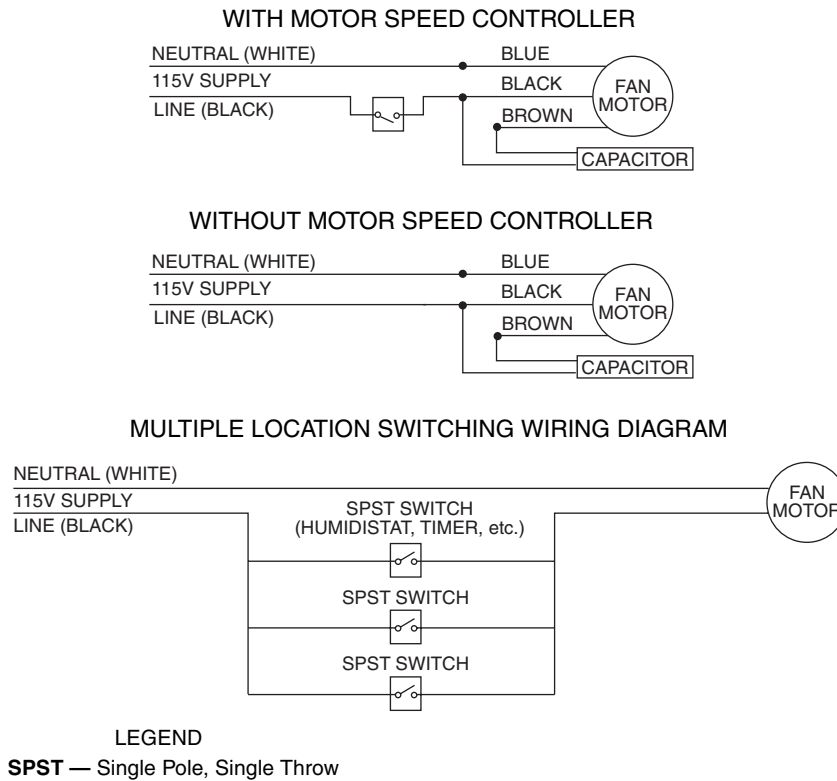

Fig. 3 — Wiring Diagrams (All Units)
1. Consult wiring diagrams shown in Fig. 3 to ensure proper connections.